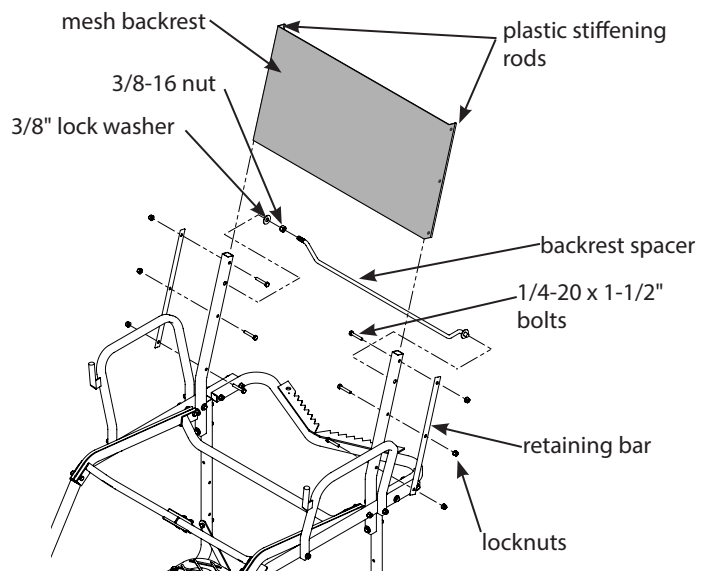

Figure 18
13. Attach the mesh backrest assembly (360021) and the (2) retaining bars (410081) to the backrest mounts using (6) provided 1/4-20 x 1-1/2" bolts and locknuts. **SEE FIGURE 18.** The mesh backrest must wrap around the front side of backrest mounts and the plastic stiffening rod located in the sewn sleeve on each side of the backrest **MUST** be positioned behind the backrest retainer bars to act as a stop and prevent the backrest from pulling out during use. All bolts **MUST** go through the backrest retainer bars, the holes provided in the backrest and the backrest mounts. **SEE FIGURE 18.** Temporary removal of the backrest mount tube from the rest of the assembled ladder top may be necessary to attach the mesh backrest. If this is needed, re-attach backrest mount tubes with mesh backrest to the ladder top assembly.
14. Thread the non-locking 3/8-16 nut onto the threaded end of spacer rod all the way to the bottom of threads and slide 3/8" lock washer on. Insert the threaded end of spacer rod through either backrest mount tube far enough to be able to insert the opposite end of spacer rod (end with welded-on washer) into opposite backrest mount tube. Thread 3/8-16 nut back against mount tube. Using a 9/16" wrench, tighten nut until mesh backrest becomes taut. **SEE FIGURE 18. You must now tighten all nut and bolt assemblies. Be sure not to over tighten or crush tubing when tightening!**